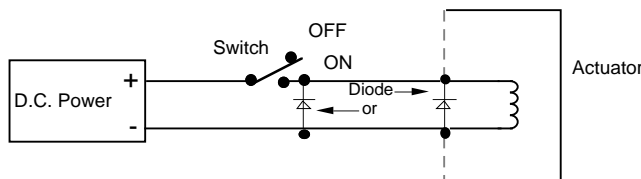

Figure 1
The actuator is a coil with inductance. When applied voltage is suddenly removed, there is a large transient voltage at the actuator. When used in the complete Barber-Colman governing system, arc suppression is supplied in the electronic governor control box. This permits polarity free wiring from the governor control box to the actuator. For production test fixtures it would be wise to put a freewheeling diode on the terminal strip used to wire the power supply to the actuator connected with polarity as shown. Repeated transients could damage the dielectric characteristics of the actuator causing early failures. See Figure 1.
- Check the resistance between each of the two actuator terminals and case (ground). It must be three (3) megohms or greater.
- Take care that the actuator arm is free to travel and the metering valve drive coupling will not bind. Energize the actuator with the proper voltage and note that the lever arm moves to maximum mechanical position. Slowly de-energize the actuator (or use a diode as per Par. I, Figure 1) and determine that the lever arm returns to minimum position.